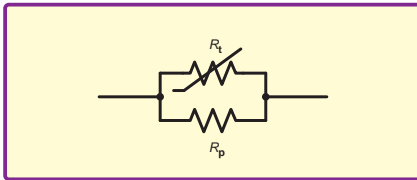

Fig.2. Parallel combination of resistor and thermistor
The last function is the `updateTime()` function. This is executed every minute, once the `seconds` variable in the main while loop exceeds `maxseconds` (60). This function was discussed earlier when we talked about splitting up the separate digits on the display and when to increment each one. Fig.2 demonstrates this function after the `seconds` variable is greater than 59 seconds.
The nonlinear variation of resistance of NTC thermistors presents a potential problem when using them for temperature measurement, particularly if a wide measurement range is required. The resistance-temperature characteristic can be linearised to some extent by connecting a resistor in parallel with the thermistor, as shown in Fig.2. The resistor should be selected to match the resistance of the thermistor at the mid-point of the required measurement range.